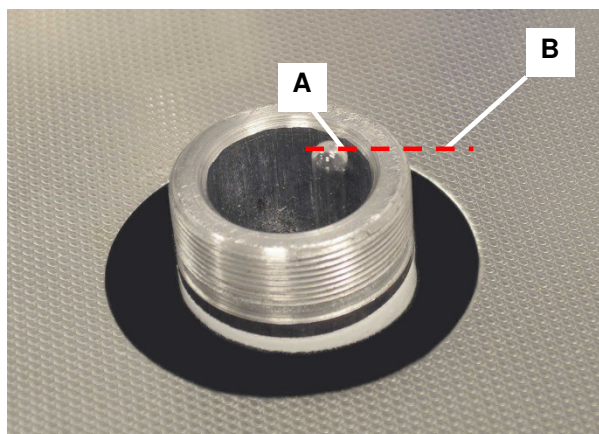

Figure 4.7. Filler tube with glass float at maximum filling level
5. Carefully fill little by little the remaining electrolyte until the tip of the float is flush with the edge of the neck (*Figure 4.7.B*)
Checking the filling levels Check the correct filling level of the electrolyte before starting to work (also see *chapter 7.1.1.* and *Figure 4.7.*).